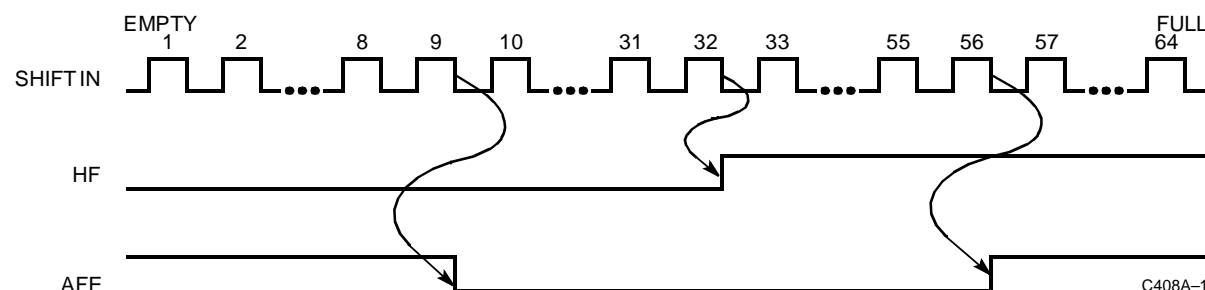

Figure 1. Shifting Words In.
Two flags, almost full/almost empty (AFE) and half full (HF), describe how many words are stored in the FIFO. AFE is HIGH when there are 8 or fewer or 56 or more words stored in the FIFO. Otherwise the AFE flag is LOW. HF is HIGH when there are 32 or more words stored in the FIFO, otherwise the HF flag is LOW. Flag transitions occur relative to the falling edges of SI and SO (Figures 1 and 2).